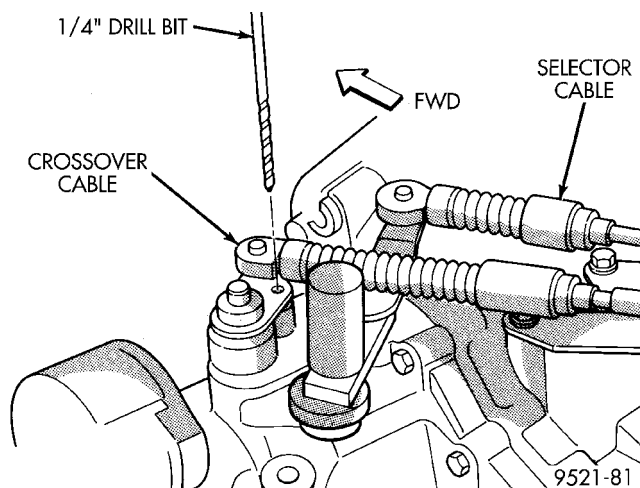

Fig. 140 Crossover Lever Pin Procedure
- (3) Pin transaxle crossover lever in 3-4 neutral position using a 1/4 inch drill bit. Align hole in crossover lever with the hole in the boss on the transaxle case (Fig. 140). Be sure drill bit goes into transaxle case at least one-half inch.
- (4) The shifter is spring-loaded and self-centering. Allow shifter to rest in its neutral position. Torque adjustment screw to 8 N·m (70 in. lbs.). Care must be taken to avoid moving the shift mechanism off-center during screw tightening.